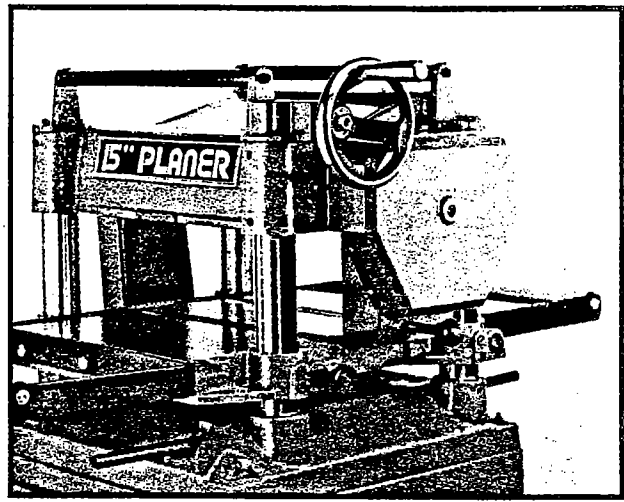

Fig. 8
Turning handle (A) or (B) Fig. 8 to the right or left will raise or lower table.